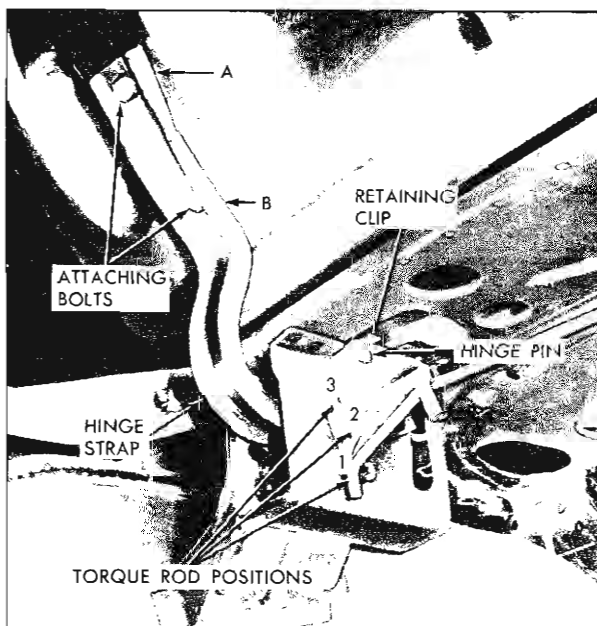

Fig. 5-4 Trunk Hinge and Torque Rod
4. With aid of helper, remove lid attaching bolts (Fig. 5-4) and remove rear compartment lid.
a. To raise front edge of lid at hinge area, place shim between lid inner panel and forward portion of one or both hinge straps at "B" (Fig. 5-4).
b. To lower front edge of lid at hinge area, place shim between lid inner panel and rearward portion of one or both hinge straps at "A" (Fig. 5-4).
4. With a suitable tool disengage torque rod from notched retainer on inboard face of opposite hinge box (Fig. 5-4).
6. Bend up hinge pin retaining tab on inboard face of hinge box (Fig. 5-4), remove hinge pin and then remove hinge from box.
The amount of effort required to open and close the rear compartment lid is determined by the position of the torque rod in the notches on the inboard face of the hinge boxes. If the torque rod is located in the lowest most forward notch (position #1), the amount of effort required to open the lid is the greatest and the amount of effort required to close the lid is the least. If the torque rod is located in the top or most rearward notch (position #3), the amount of effort to open the lid is the least and the amount of effort to close the lid is the greatest. See (Fig. 5-4).